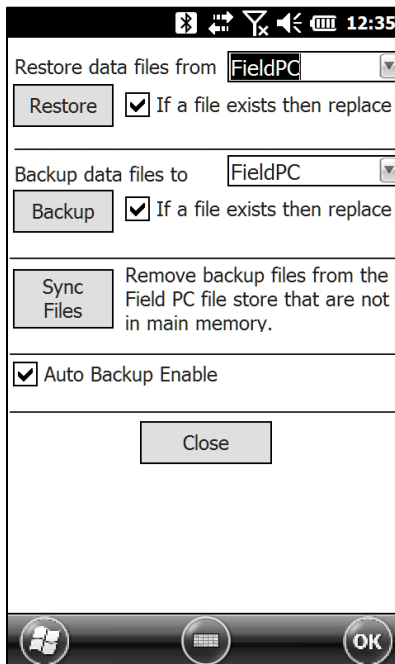

Figure 35 – File Backup Options
2. Once selected, the File Backup Options screen (Figure 35) will appear.